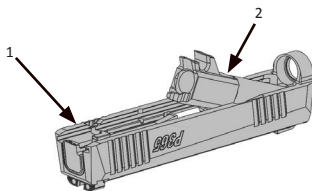

Figure 1
1. Insert the barrel (Figure 1, Item 2) into the slide (Figure 1, Item 1)